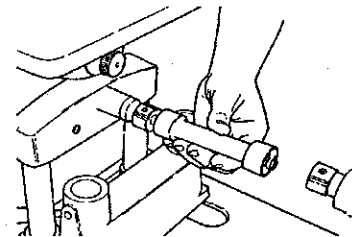

Fig.G-2
5. Place the power coupler (71) onto the Jigsaw's drive shaft hub, as in Fig.G-2.